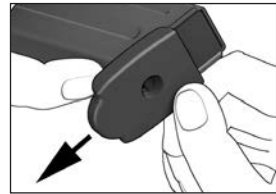

Figure 23
- Slowly slide the floorplate forward off of the magazine housing (see Figure 23).